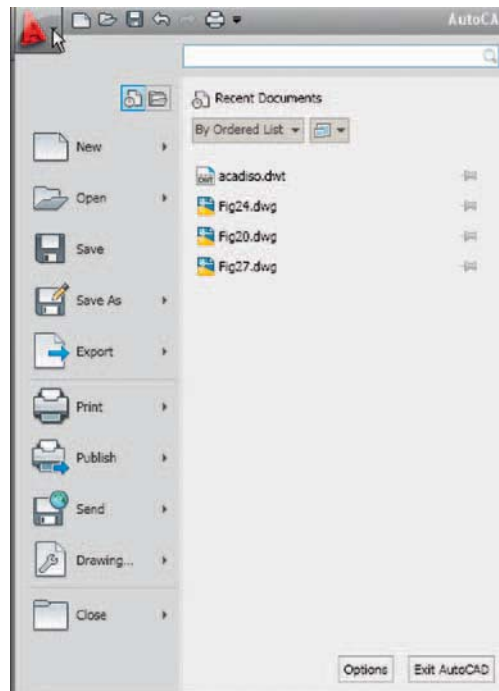

Fig. 1.4 The Menu Browser
- **Menu Browser** icon: A *left-click* on the arrow to the right of the **A** symbol at the top left-hand corner of the AutoCAD 2010 window causes the **Menu Browser** menu to appear (Fig. 1.4).